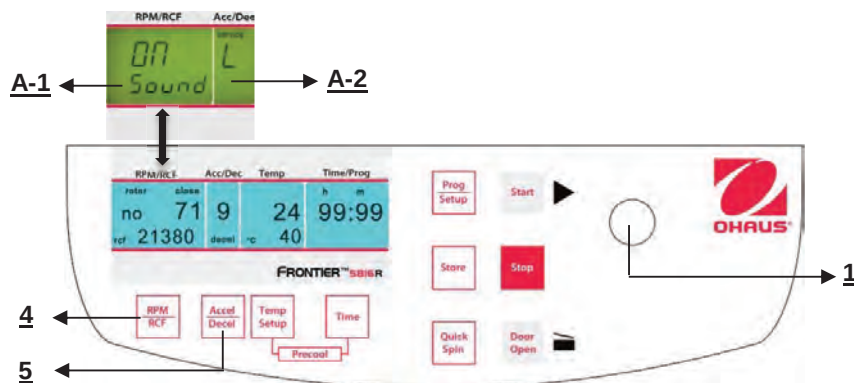

Figure 32
Proceed as described under point 4.1.1 to enter this program mode and then press the key **"Accel/Decel"** (5). In the display **"Acc/Dec"** (A-2) the word **"Service"** flashes. Now select the letter **"L"** with the adjusting knob (1). As a result, the words **"On Sound"** appears in the display **"RPM | RCF"** (4). If you press the key **"RPM | RCF"** (4) now, the word **"On"** flashes and you can switch off the sound with the adjusting knob (1) (See figure 32). After you have stored the settings (See 4.1.1) you change back to the normal program mode again by switching off the centrifuge for a short while.